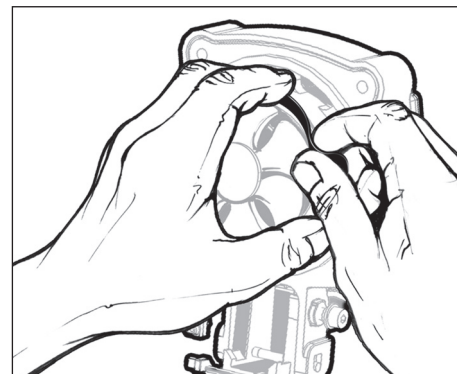

Figure 6
2. Gently pull the o-ring out of the groove and over the fan (see Figure 6). Wipe the o-ring clean with a soft cloth. Spray a light amount of degreaser cleaner on the cloth to help remove any residue. Repeat as necessary to remove any build-up that remains on the o-ring.